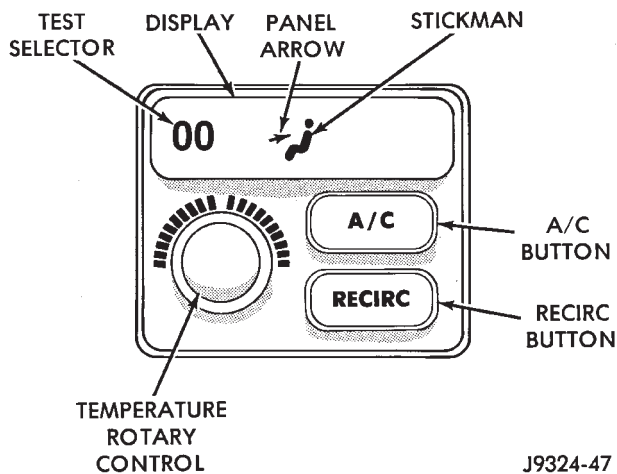

Fig. 8 Test Selector Values Between 100 and 199
(3) If the panel (middle) arrow is showing, the test selector value will be a range of numbers between 100 and 199 (Fig. 8).